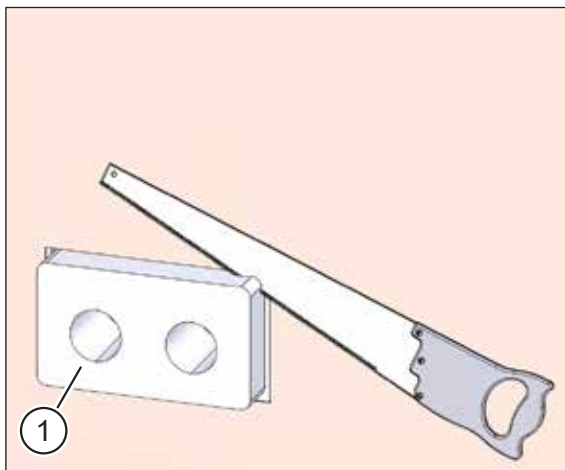
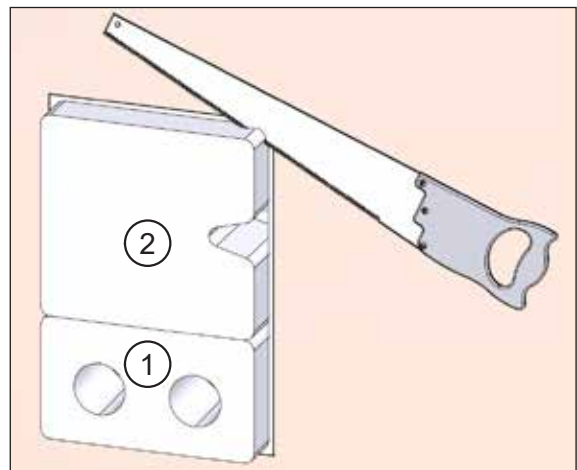

Fig. 34: Aligning the wall box **without** filler piece
Fig. 35: Aligning the wall box **with** filler piece
- ▶ Use a Styrofoam saw to cut off the excess wall box (item 1 in Fig. 34 and Fig. 35) and filler piece, if necessary (item 2 in Fig. 35), so that they are flush with the wall or any attached insulation.